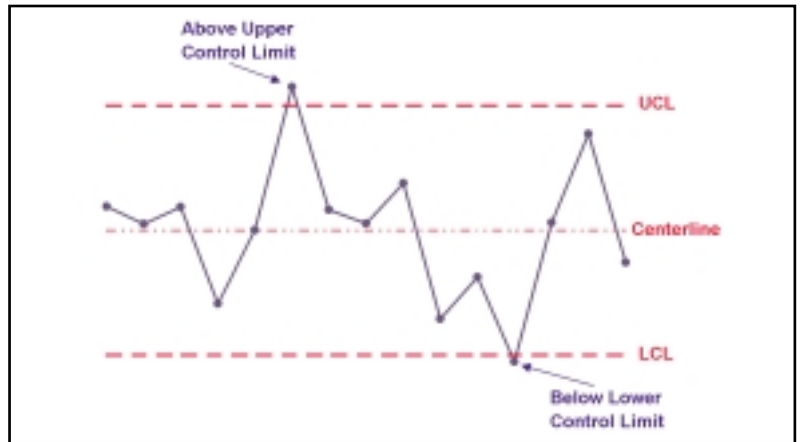

Figure 8—Subgroups outside the control limits.
- 1.) Data points outside the control limits (Figure 8),